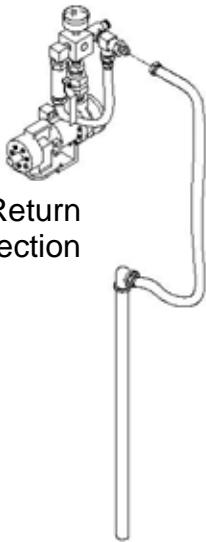

Fig. 5 - Return Hose Connection
3. Attach the fitting end of the return hose/pipe to the sprayer using the $\frac{1}{2}$ " connection on the spray block assembly. (See Fig. 5)